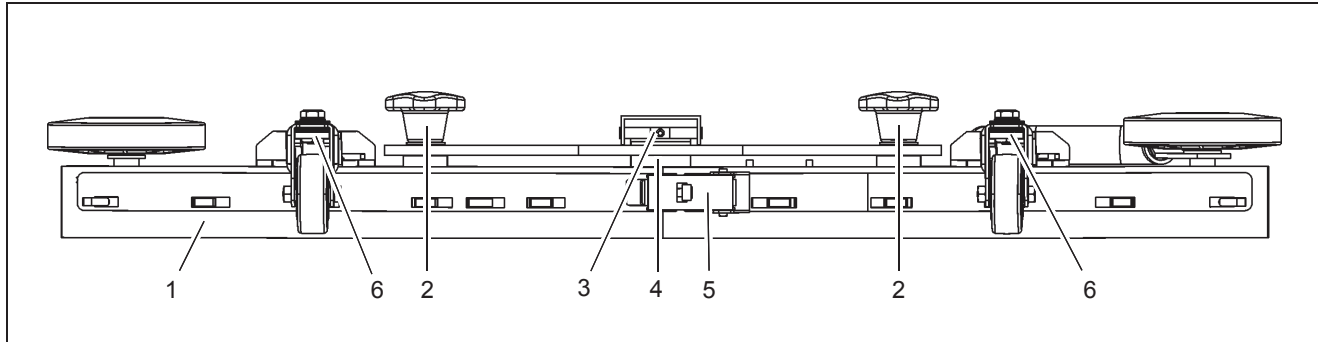

Fig.15
Check the squeegee (Fig. 15/1) daily and clean it as necessary.
To clean the squeegee raise it, disconnect the suction hose (Fig. 15/4), loosen the two star-shaped knobs (Fig. 15/2) and remove the squeegee.
Check the inner and outer sealing strips on the squeegee (Fig. 15/1) weekly for signs of wear. The sealing strips can be turned four times (90°) and reused.
3. Loosen the fastening device (Fig. 15/5) and remove the outer sealing strip. Turn the sealing strip or replace it, as necessary. Change the inner sealing strip in the same way.
2. Loosen the counternut on the adjusting bolt (Fig. 15/3) and adjust the squeegee with the adjusting bolt until the ends of the sealing strips just make contact with the floor.